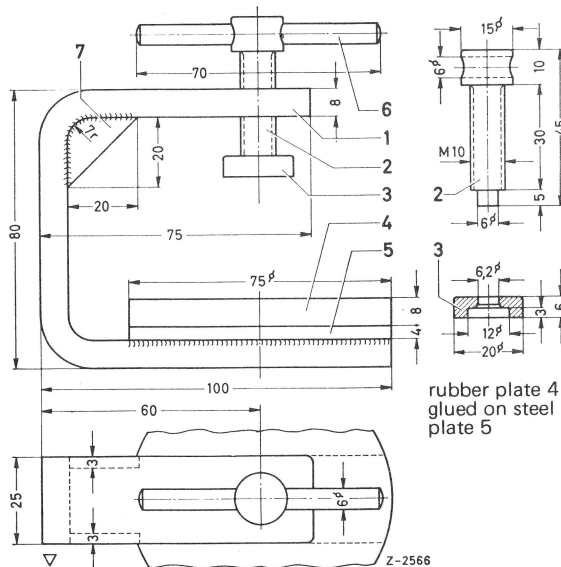

Fig. 7
Clamping device for piston	self-made according to Fig. 7
**Note:** The clamping fixture (21) is self-made according to dimensions shown in Fig. 7. **The steel and rubber plate may have a diameter of 50 mm only.** (75 mm dia. applies to front wheel caliper).